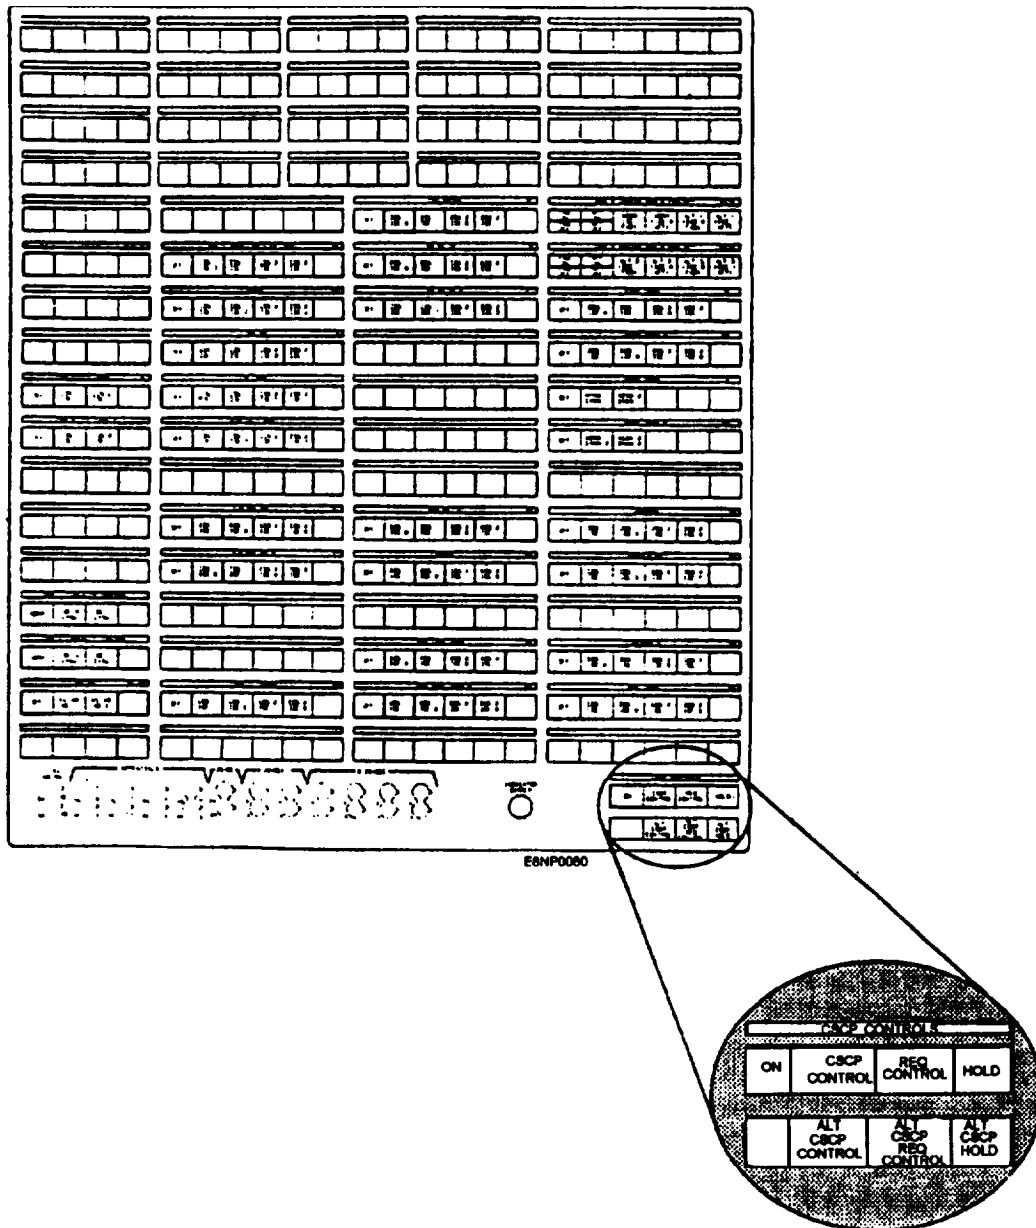

Figure 5-14.-CSCP controls and Indicators.
Push-button/indicator (PBI) on the controlling CSCP front panel (fig. 5-14). The CSCP will generate a
Four colors are used for PBI indicators: white, red, green, and yellow. White indicates the linear slide switch position is in the ON position. Red indicates the switch is in the OFF position. Green indicates the switch is in the NORMAL position, while yellow indicates the switch is in the ALTERNATE position. Figure 5-14 shows an example of a typical CSCP configuration. The number and functional assignment of PBIs vary from ship to ship.
The PBIs in the lower-right corner of the CSCP front panel shown in figure 5-14 are used to apply power to the CSCP PBIs (ON), to indicate current CSCP control status (CSCP CONTROL or ALT CSCP CONTROL), and to transfer control from the controlling CSCP to the alternate CSCP (REQ CONTROL, HOLD, ALT CSCP REQ CONTROL, and ALT CSCP HOLD). Manual PBI actions are required at both CSCPs to transfer control between panels.